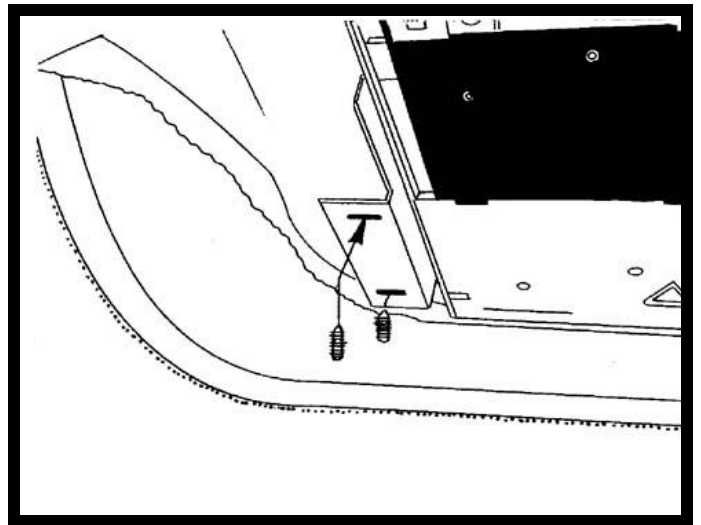

FIGURE 8
8. Install housing bottom (item 5 pg 2) and secure to bracket by inserting clips into slots and pressing firmly. Make sure contour of housing matches floor of vehicle prior to securing clips. See Figure 8.